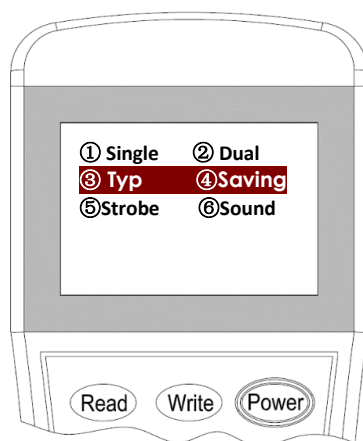

Figure 11
3. Input the **“3”** for **Typical** mode or **“4”** for **Saving** mode then press **“Write”** to change the setting into the desire mode (Figure 11).